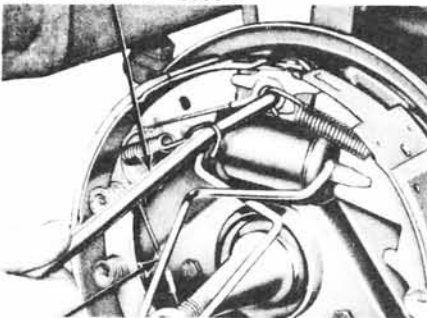

FIG. 10—Retracting Spring Installation
6. Install the primary shoe to anchor spring (Fig. 10).
8. Install the secondary shoe to anchor spring with the tool shown in Fig. 10.